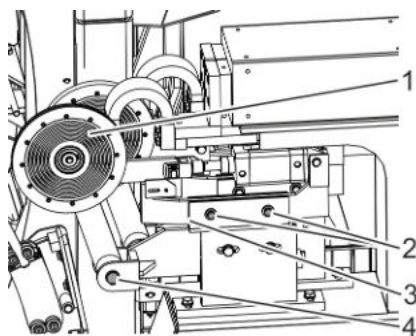

Fig. 79: Checking isolation of the welding roller
2. Use an ohmmeter to measure the resistance between the welding rollers (Fig. 79/1) and a grounded point (e.g. subframe of welding support).
4. If necessary, replace the insulating sleeves and insulating plates (Fig. 79/2 - 4).